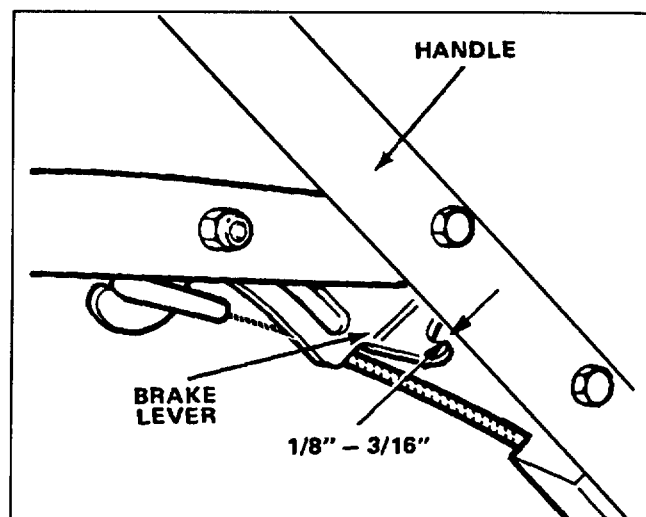

Figure 30
2. CHECK ADJUSTMENT (Fig. 30)—Move control bar toward handle until slack in wire is removed. Gap between brake lever and handle must be  $3/16'' - 1/4''$ . See step 3 for adjustment.
3. ADJUST CABLE CONDUIT (Fig. 30)—Loosen nut on cable bracket. Insert  $3/16'' - 1/4''$  object between brake lever and handle. Pull down on cable conduit until all slack is removed from wire. Then tighten nut.